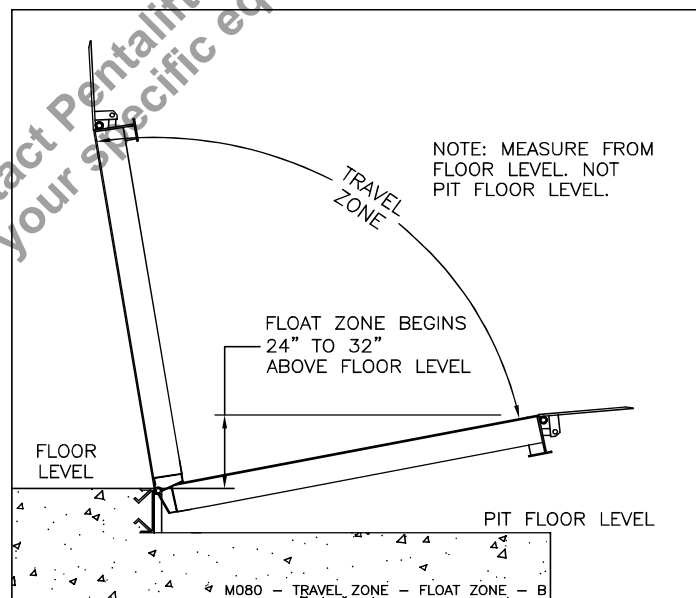
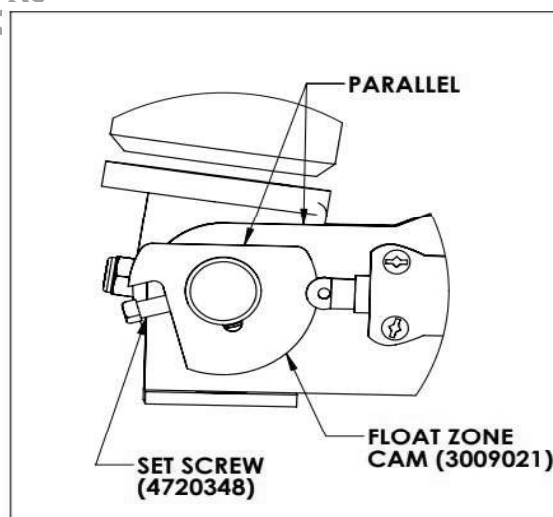

Figure 26: Travel & Float Zones
Figure 22B: Float Zone Limit Switch Cam Adjustments
8. **Setting the Float Zone:** Confirm that the float zone activates at the correct position by lowering the dock leveler so that the front edge of the dock leveler deck is 34" above the dock floor level. From this point, jog the dock lower button. If the dock leveler stops lowering and the buzzer sounds the dock leveler is still in the travel zone. Continue jogging the deck lower. Once the float zone transition point has been reached the dock leveler will continuously lower to it's lowest point, even when the deck lower button is released. The buzzer will no longer sound and the green light will be illuminated. The transition point should be set at a point where the front edge of the dock leveler deck is 24" to 32" above the floor level (See "Figure 26: Travel & Float Zones" on page 37). When the dock leveler is in that zone, the dock leveler should float down automatically upon releasing the dock lower button. If the float zone point is not set between 24" and 32" then adjust the float zone cam (See "Figure 22B: Float Zone Limit Switch Cam Adjustments" on page 38) to achieve the desired zone range setting.